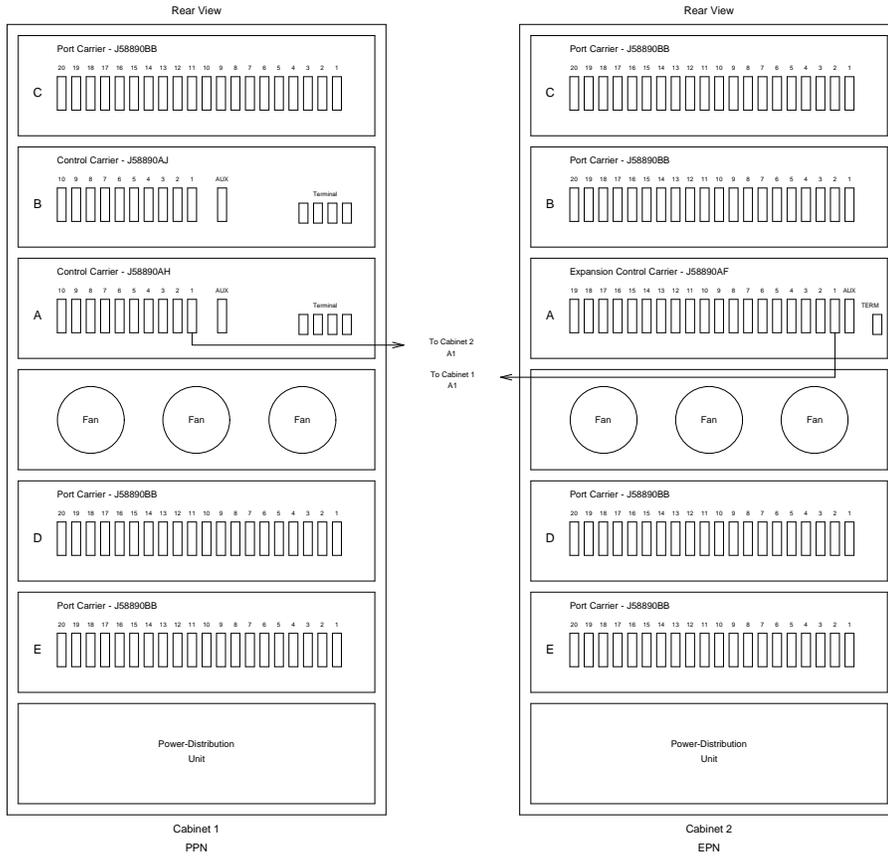
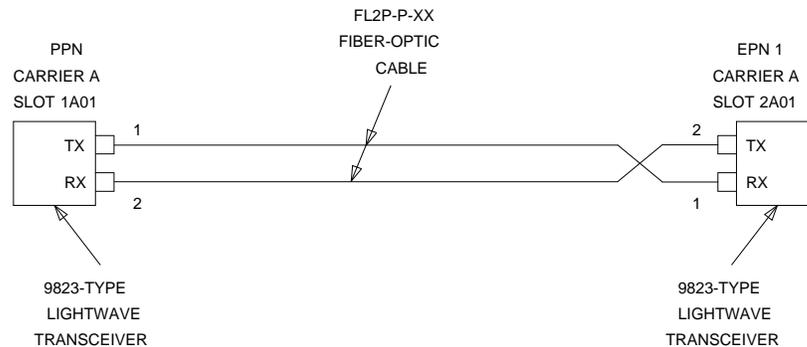
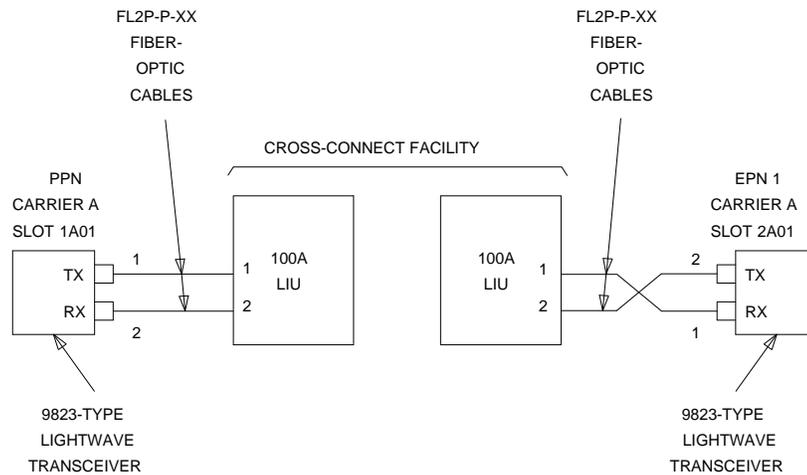

Figure 3-43. High-Reliability G3i V4 with Two Port Networks
Figure 3-44. Fiber-Optic Connections PPN to EPN
Figure 3-45. Fiber-Optic Connections PPN to EPN
The connectors on the lightwave transceivers are labeled either “TX” (transmit) or “RX” (receive), while the fibers attached to each connector are numbered either “1” or “2.” A viable fiber connection is only made when both fibers in each cable (that is, “1” and “2”) route from the “TX” connector of a port network to the “RX” connector of its adjacent port network. For an example, refer to Figure 3-44.
1. Behind control carrier A of the PPN cabinet (see Figure 3-43 and Figure 3-44):
1. Behind control carrier A of the PPN cabinet (see Figure 3-43 and Figure 3-45):